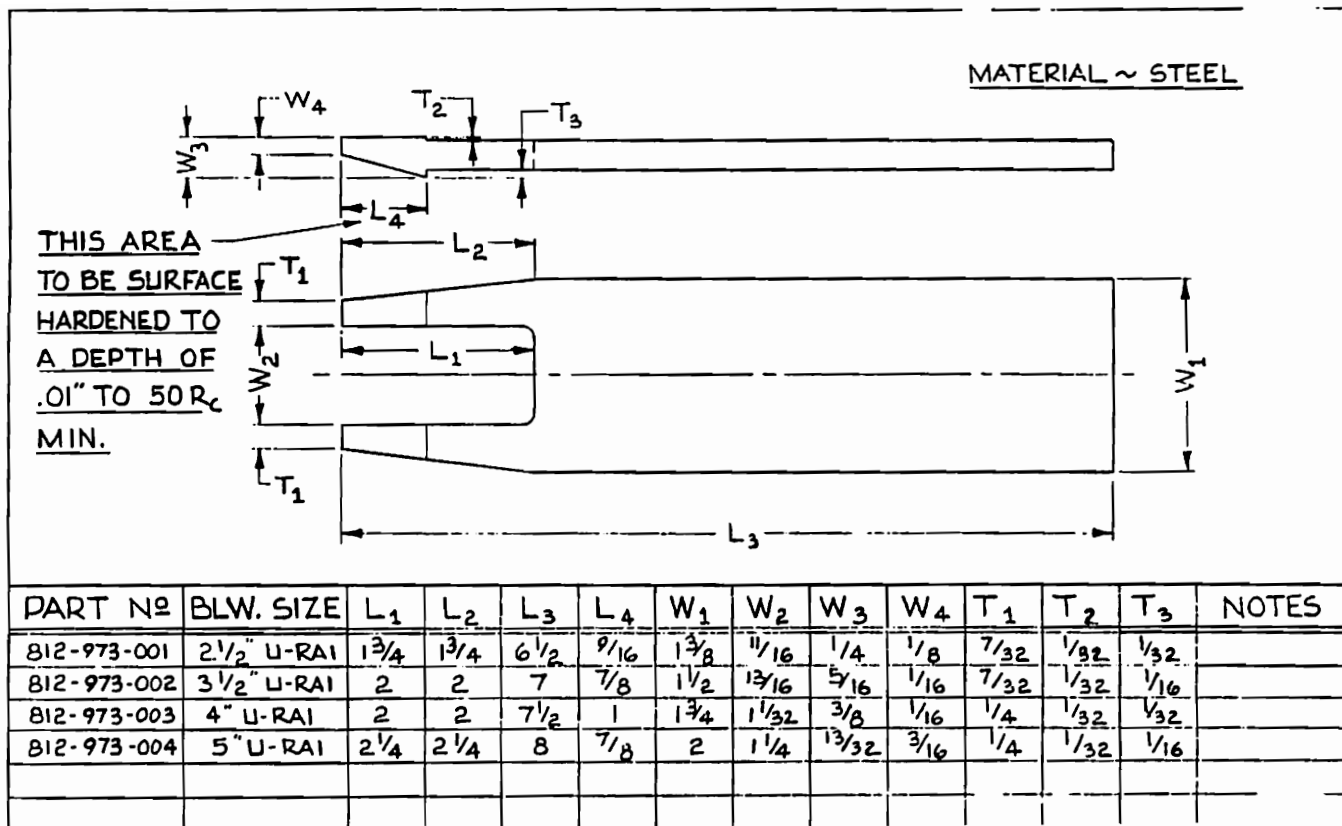
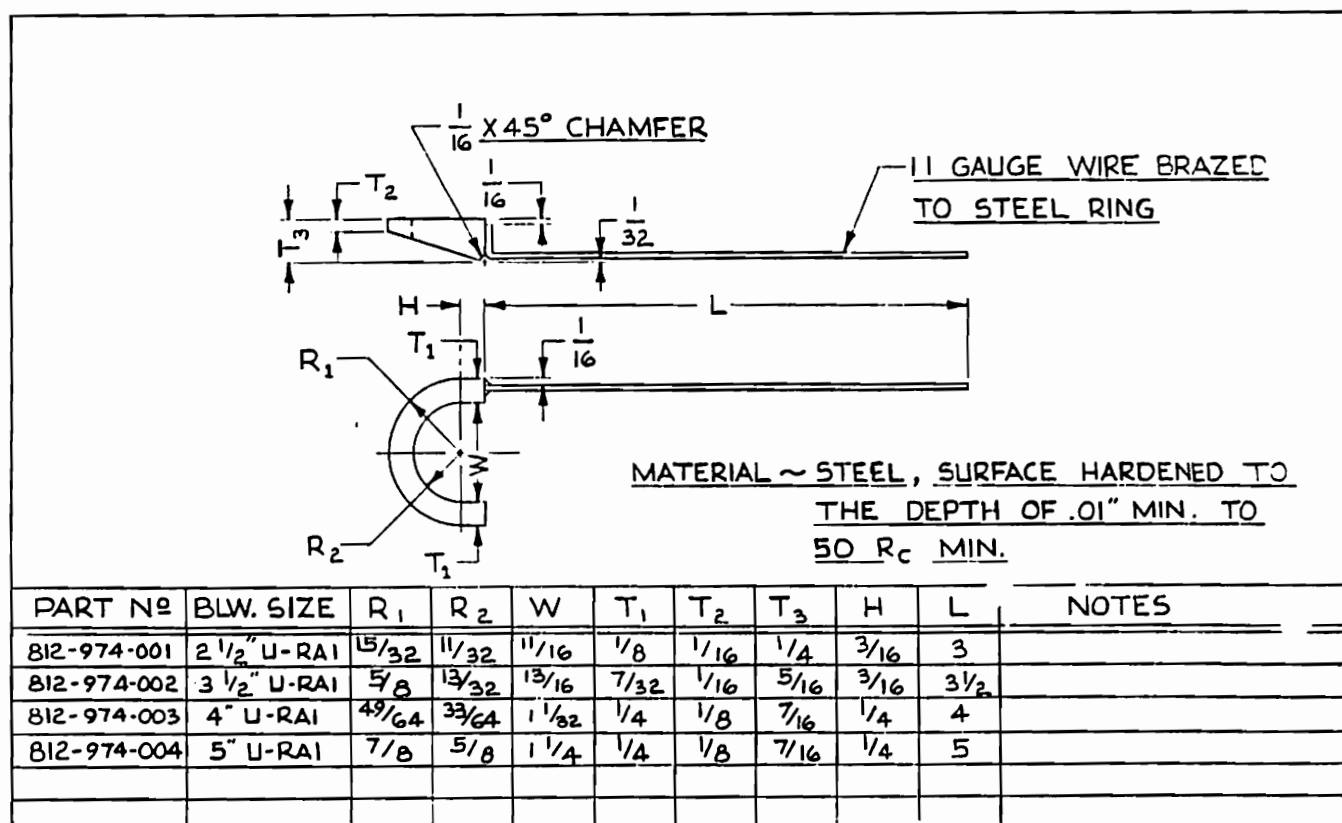

Figure 7 — Thrust Adjuster Fork
Figure 8 — Thrust Adjuster Saddle
In the following outlines of repair procedures, numbers shown in brackets () correspond to the Item Numbers used in assembly drawing, Figure 8 & 9. It is recommended that the procedure be studied carefully and completely, with frequent reference to the drawings, before starting work. This will produce better efficiency through an understanding of what work is to be done, and the order of doing it. Before disassembly, mark all parts so that they may be returned to original locations or relative positions.
11. Place blower on its feet on a flat surface. Loosen feet capscrews (32) and square up unit. Re-tighten capscrews (32). Clamp unit down to a solid base for further assembly.
12. Oil the gear end bearing fits as described previously. Install 2½-5" RAI gear end bearings flush with the headplate bearing shoulders using proper drivers. On 6" RAI, install thrust washer (29) in bearing bores then install gear end bearings so that they protrude ⅛" (1.6mm) above headplate surface.
13. Install bearing clamp plates (34). On 6" RAI, impeller end clearances are also to be set during this step. Install clamp plates (34) with capscrews (31) making sure that the gap between the clamp plates and the headplate is even all around, at the same time, set end clearances per Table 5.
14. Install gears and time impellers as in (A).
15. For setting end clearances on 2½-5" gear diameter units, special tools, thrust adjuster fork Fig. 7 and thrust adjuster saddle Figure 8 are required. Refer